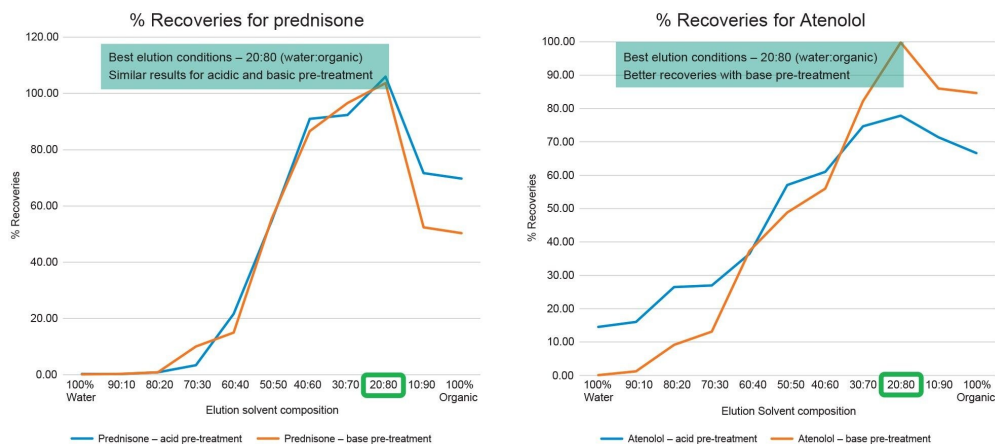

Figure 4. Method optimization results – (A) Prednisone and (B) Atenolol.
Using this experimental set up, we were able to increase the recoveries for the analytes mentioned above which previously had moderate to low recoveries. Figure 4 shows % recoveries plot for (A) Prednisone and (B) Atenolol. Based on the optimization results, % recoveries for prednisone can be maximized using a 20:80 aqueous:organic elution solvent composition. The pre-treatment step does not seem to affect the recoveries meaningfully. For Atenolol, base pre-treated samples eluted using 20:80 aqueous:organic solvent provide the highest recoveries.